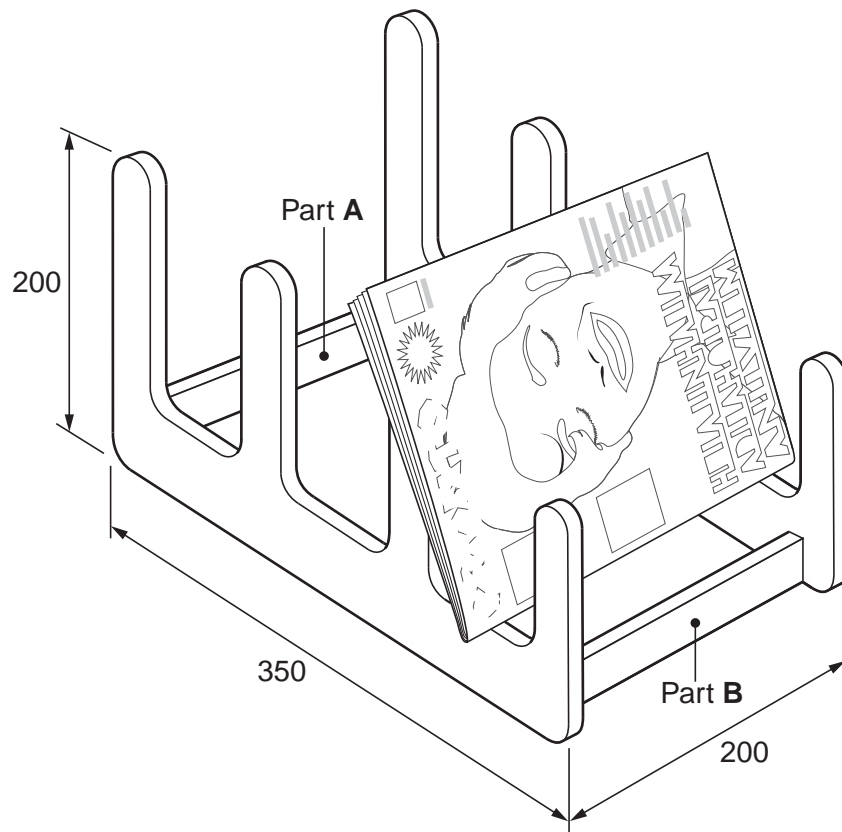

Fig. 2
- 2 Fig. 2 shows a storage rack for books and magazines, which is to be made in a school workshop.